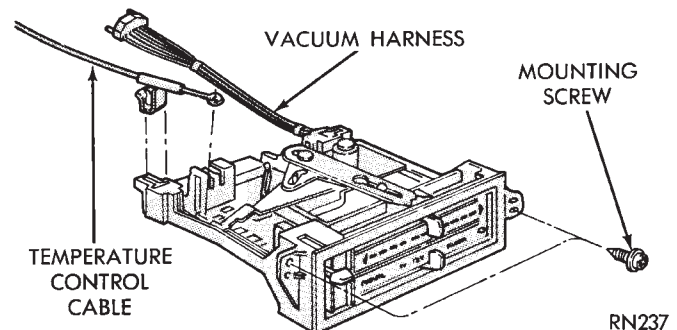

Fig. 27 A/C Control
- (1) Remove center stack bezel.
- (2) Remove two control mounting screws (Fig. 27 and 28).